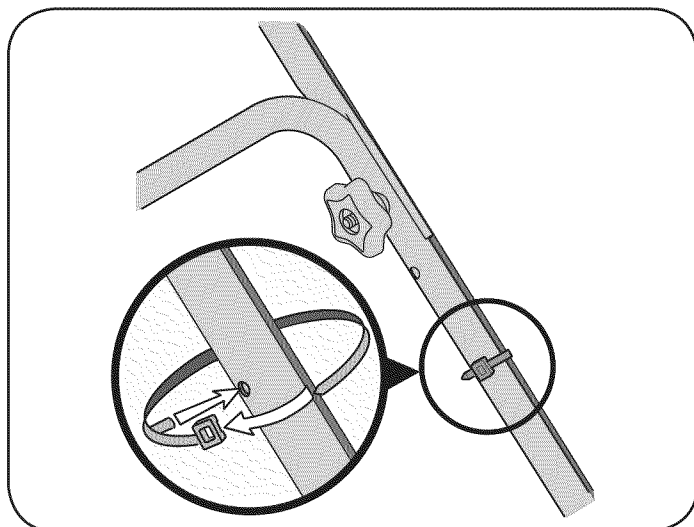

Figure 5
4. Insert post on cable tie into hole provided on the lower handle. Pull cable tie tight and trim excess. See Figure 5.